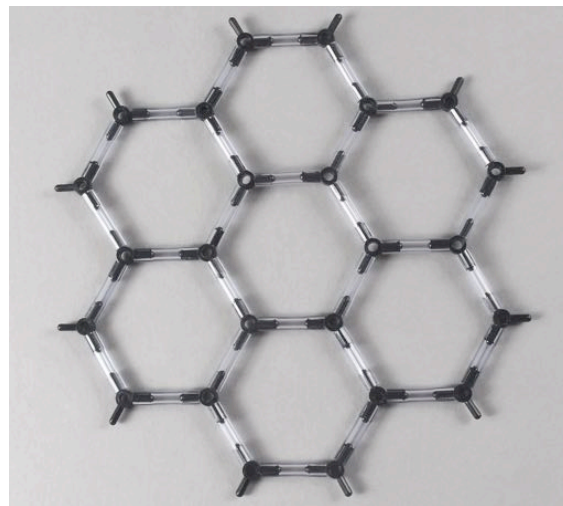

Fig 6 The finished graphene layer.
Your final graphene layer should look like Fig 6.
4. Repeat steps 1-3 two more times so that you have three copies of Figure 6.